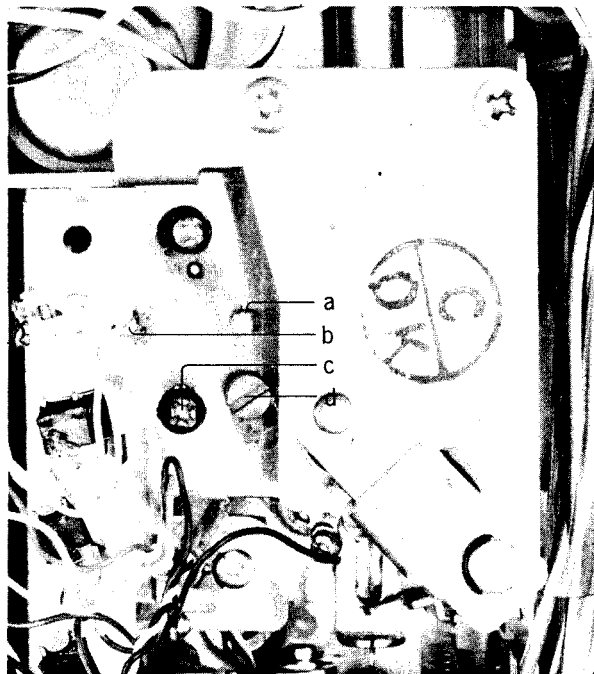

Fig. 1
- 2) Playback Program 3 of an 8,000 Hz. pre-recorded Tape and adjust Screw "c" shown in Fig. 1 so that the V.T.V.M. indication is maximum.
- 3) Playback Program 2 of *Test Tape and adjust Screw "d" shown in Fig. 1 so that the V.T.V.M. indication is minimum.
- 5) The adjustments outlined in items 2) and 3) above will result in ideal head height position and minimize cross-talk.